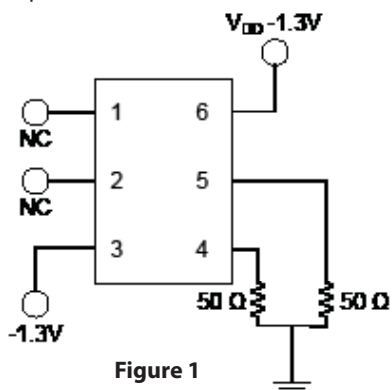

Figure 1
4. Figure 2 defines these parameters and Figure 1 defines the test circuit.